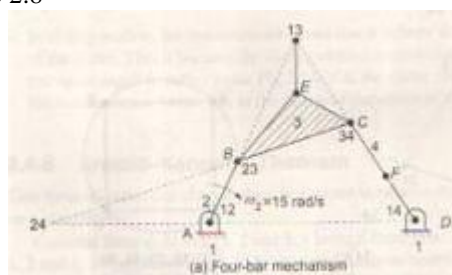
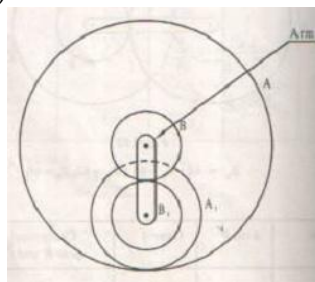

Fig. 2.8
Fig. 4.4
4. In a four bar mechanism shown in fig 4.4, link 2 is rotating at angular velocity ω_2 . locate all the instantaneous centers of the mechanism & find a) the angular speeds of link 3 & 4, the linear velocity of links 3 & 4, the linear velocities of points E & F as shown in the figure 2.8